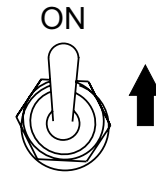

Figure 21. Operation Switch (ON)
4. Place the generator's operation switch (Figure 21) in the **ON** position.